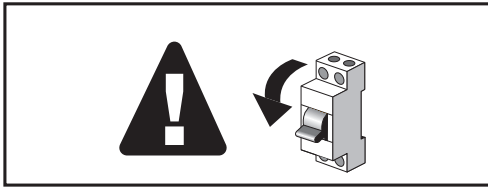

Figure 1: Mains switch
1. Switch off the mains power supply (Figure 1).